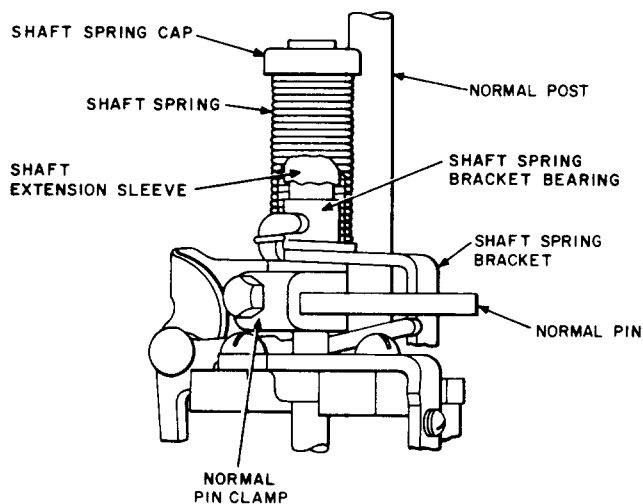

Fig. 16—Helical-Type Shaft Spring Assembly
3.12 *Switches With Helical Shaft Spring Assemblies (Fig. 16)*